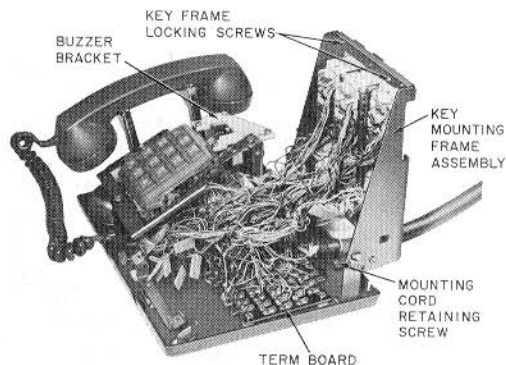
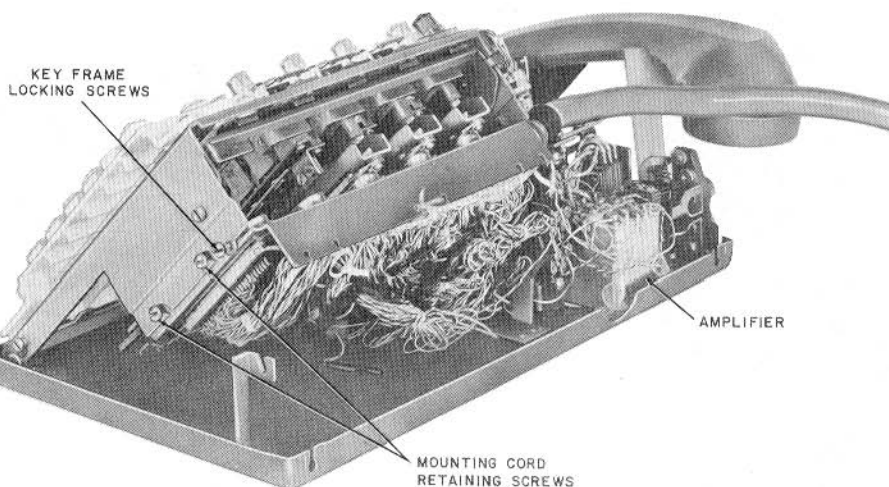

Fig. 21—Key Frame Raised in Current Production Telephone Set
Fig. 22—Key Frame Raised on Early Production Telephone Set
- (1) Remove housing.
- (2) Remove mounting cord clamp.
- (3) Loosen key frame locking screws. [Located on front of key frame on current production telephone sets (Fig. 21) and on the side of key frame on early production sets (Fig. 22).
- (4) Raise key frame (Fig. 21 and 22).
- (5) Remove dial mounting plate (do not disconnect leads).
- (6) Disconnect mounting cord leads at network, terminal board, and amplifier (when provided).
(7) Remove mounting cord retaining screws on each side of key frame (early production sets).
(8) Pull down on mounting cord frame to disengage plugs from key connectors on early production sets or disconnect individual 508- or 509-type plugs on current production sets.
(9) Install cord assembly in reverse order.